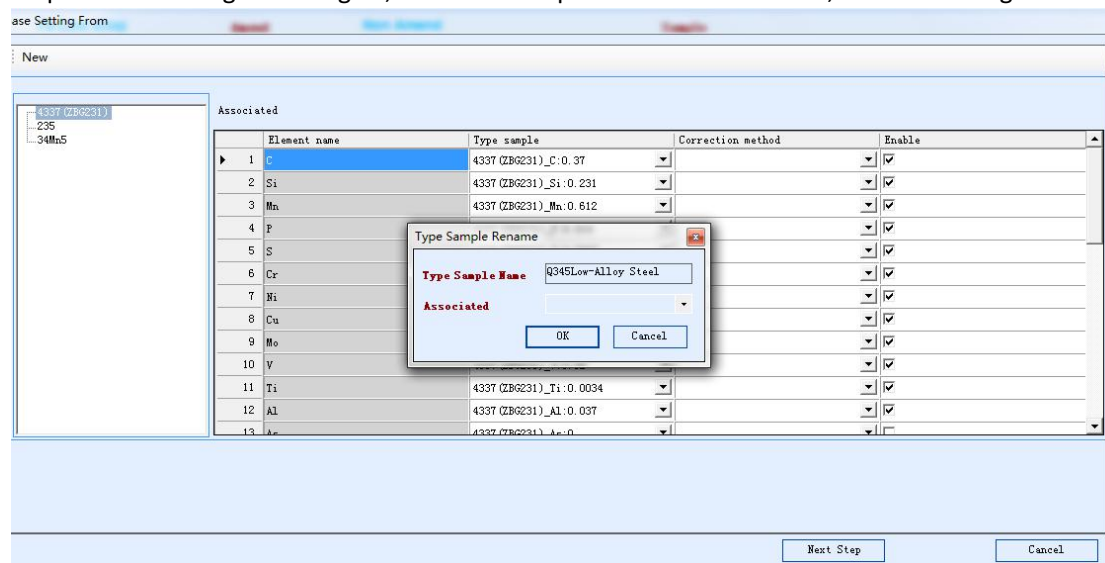

Figure 4-23 Entering the sample name
Step 2 After clicking “New” again, enter the sample name and click “OK”, as shown in Figure 4-23: